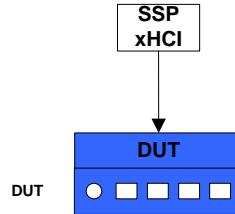

Figure 6-22: Compound Device Only Topology
- Configure the Device Under Test as shown in Figure 6-22 and attach it to an xHCI port.
- Attach the configuration shown in Figure 6-22 to an available SSP xHCI port.